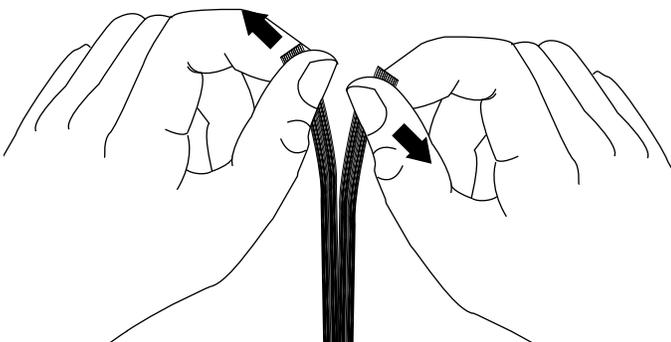

Figure 42
- c) Pull the two sections apart in opposite directions (Figure 42).